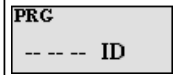

Figure 1
2. Access the Program Mode to enter the "CH 00" Settings. (See Figure 1)